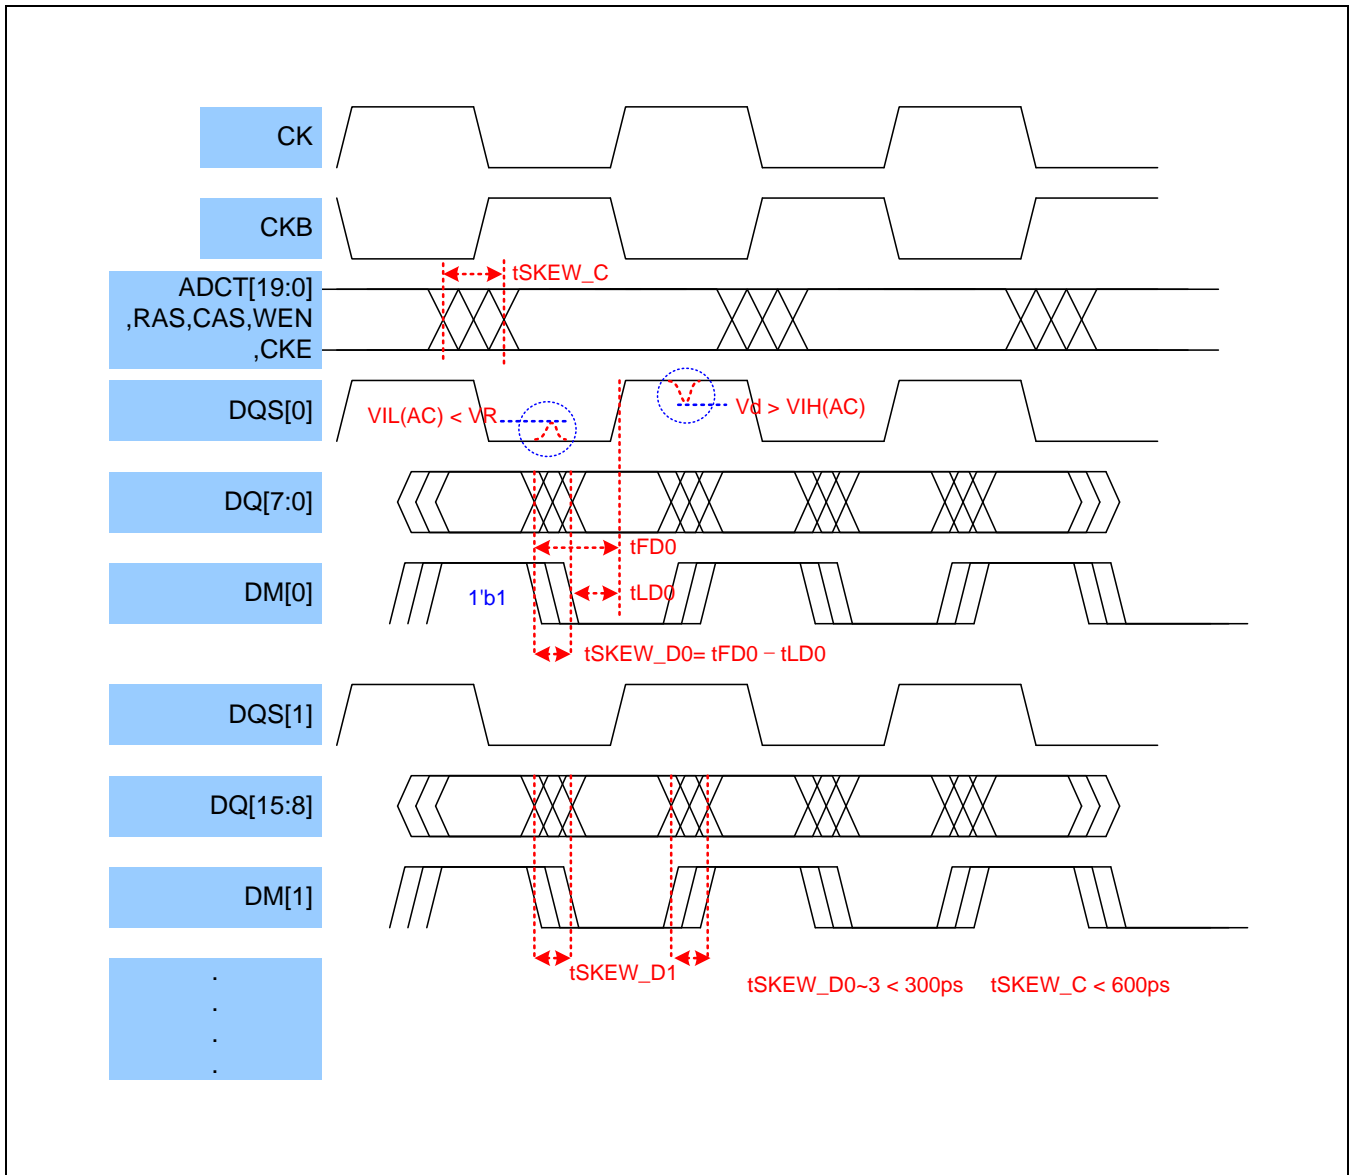

Figure 6-4 Check Points of SSN Simulation for LPDDR2/LPDDR3/DDR3
With the guided input pattern, tSKEW_C(control signal skew) and tSKEW_D0~D3(data skew) should be checked whether they are less than 600ps and 300ps, respectively. And Vd/Vr(signal voltage drop/rise) should be checked whether they meet the VIL(AC)/VIH(AC) requirement as shown in Figure 6-4. Generally, they are caused by power/ground fluctuation and coupling noise.